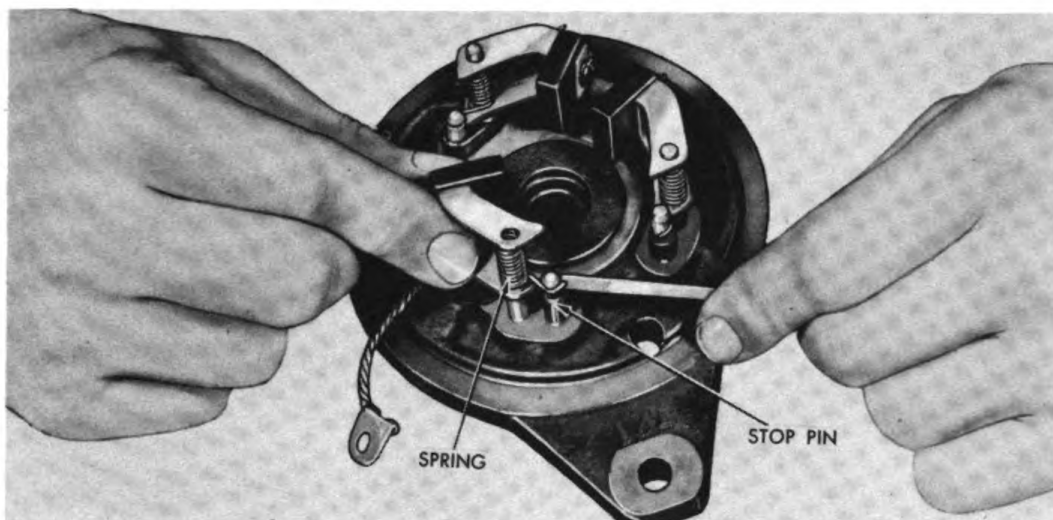

Figure 263. Removing Brush Holder Spring and Arm.
- d. To remove the spring and arms of the brush holder, use a plier to catch the hook end of the spring and lift it up over the stop pin. See figure 263. The arm and spring will slide off the pin.